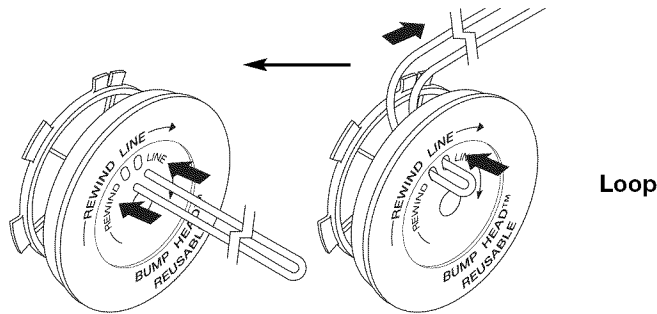

Fig. 19
- Take approximately 18 feet (5.4 m) of new trimming line, loop it into two equal lengths. Insert each end of the line through one of the two holes in the inner reel (Fig. 19). Pull the line through the inner reel so that the loop is as small as possible.